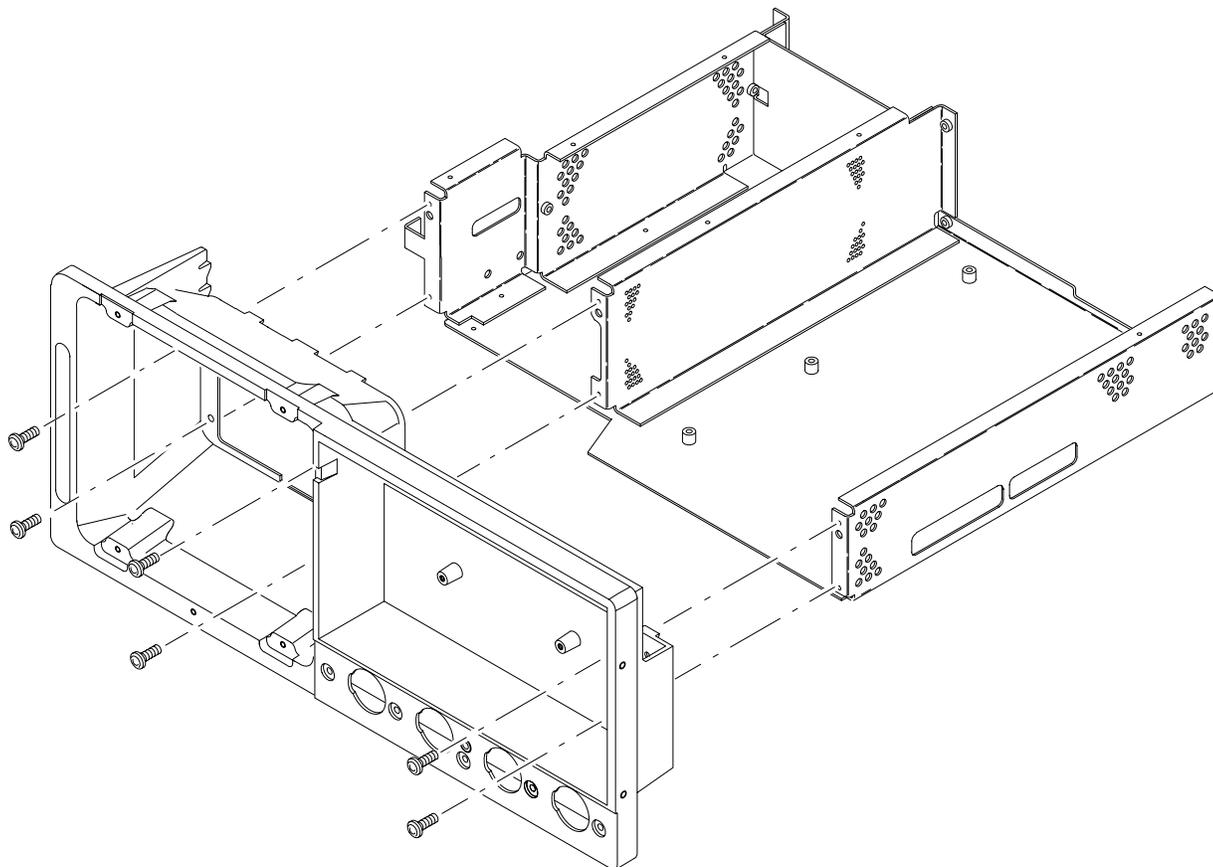

Figure 6–24: Front Subpanel Removal
3. *Remove the front subpanel:* Remove the six screws securing the front subpanel to the main chassis. (See Figure 6–24 for screw locations.) Lift the front subpanel up away from the main chassis to complete the removal.
- a. Align the front subpanel to the main chassis, taking care to ensure that the main chassis slips into its alignment slot on the front subpanel (see magnified view, Figure 6–24.) Then reinstall the six screws removed in step 3.
- b. Familiarize yourself with the modules illustrated in figures 6–1, 6–2, and 6–3.